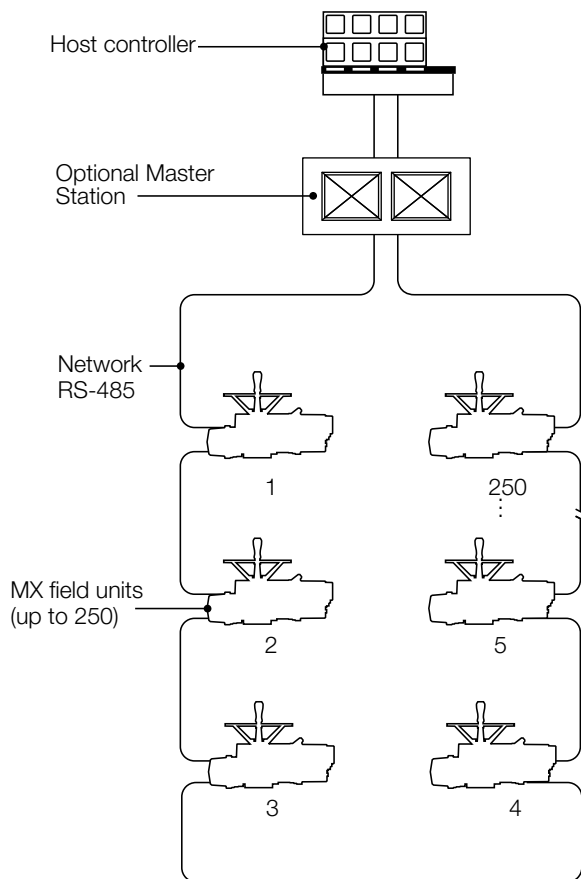

Figure 1.1 – Typical Modbus system with or without a Master Station
Limatorque's Modbus valve control network supports up to 250 actuators over a single twisted-pair cable using Modbus™ protocol. MX actuators and other devices can be accessed from a control room for integration with a plant asset management (PAM) system, distributed control system (DCS), programmable logic controller (PLC), or personal computer (PC) based network. The Modbus system consists of a host system, controller, network, and field units. A typical Modbus system is shown in **Figure 1.1**.